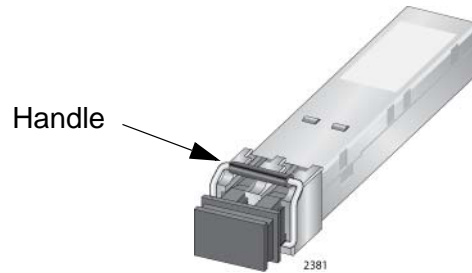

Figure 83. Handle on SFP Transceiver
3. To install the transceiver in an SFP slot on the top row of the line card, orient the transceiver with the handle on top, as shown in Figure 83 on page 147. To install it into a slot on the bottom row of the line card, orient it with the handle on the bottom.